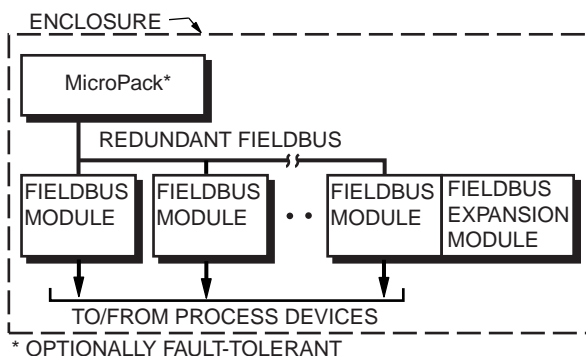

Figure 1. Local Fieldbus (Typical Configuration)
- Local Fieldbus (Figure 1) - Used only within the enclosure, the local bus can extend up to 10 m (30 ft). Up to 24 Fieldbus Modules (excluding expansion modules) attach directly to the local bus, which is redundant.